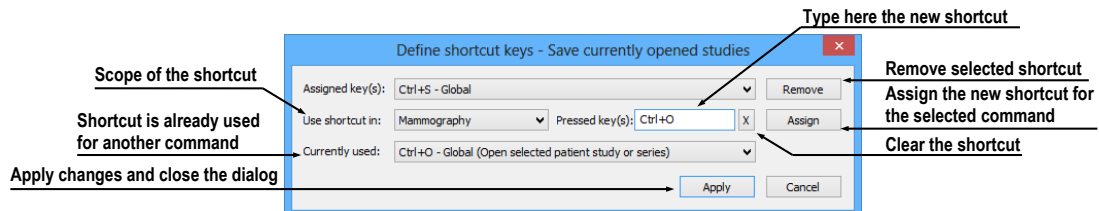

Figure 72 - Define shortcut keys dialog
- Click **Add**. The **Define shortcut keys** dialog is then displayed (see Figure 72).